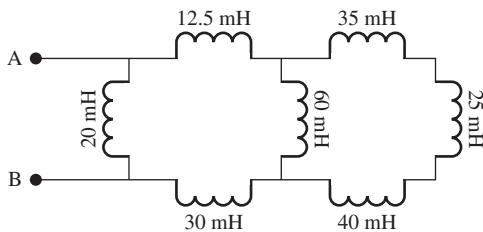

FIGURE P4.47 Inductor network.
- 4.47** (A) Find the equivalent inductance across points A and B in Figure P4.47.